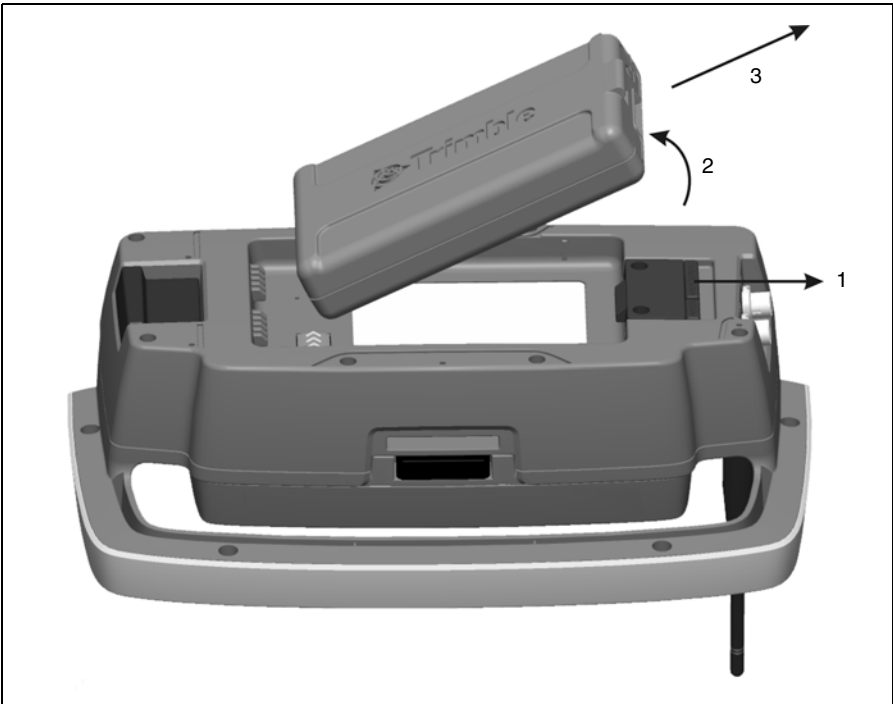

Figure 7.77 Detaching a battery from the Trimble Robotic Holder
1. Pull the battery lock mechanism away from the battery (1).
2. Lift up this side of the battery (2).
3. Remove the battery from the holder (3). See figure 7.77.